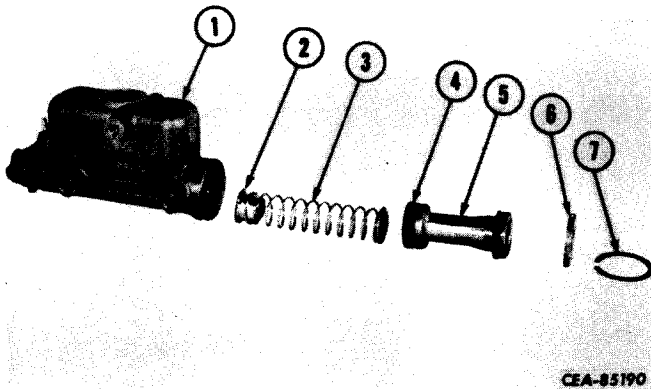

Figure 13-36
Using snap ring pliers, remove snap ring (7, Fig. 13-36). Slide piston stop plate (6), piston (5), primary cup (4), and piston return spring (3) out of body (1). Check valve (2) will come out with return spring.
Install check valve assembly (2, Fig. 13-36) in end of piston return spring (3). Insert spring into body (1). Place primary cup (4) on opposite end of spring. Place spring check valve and cup in body (1). Insert piston (5), cup end first, into body. Install stop plate (6) and snap ring (7).